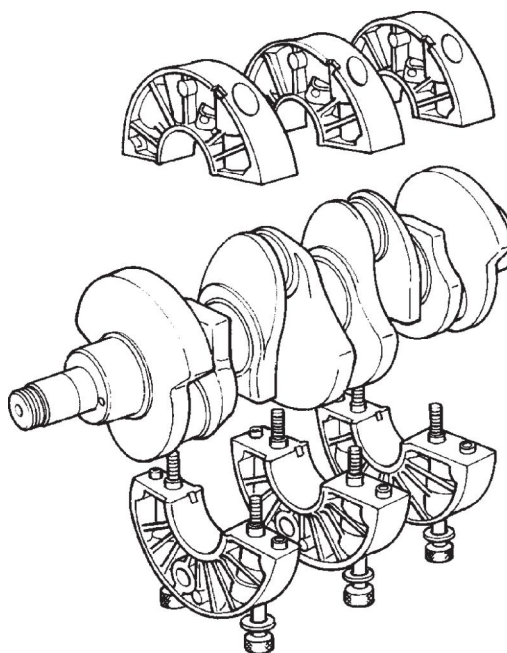

Fig. 55 Crankshaft and Carrier Bearing Assembly
- (23) Separate the two halves of each carrier, remove from the crankshaft and temporarily re-assemble the carriers (Fig. 55). Withdraw the crankshaft through the rear of the crankcase.
(1) Thoroughly clean crankcase and oil passages, and blow dry with compressed air.
(2) Install new main bearing shells in each of the carrier halves. Assemble the carriers to the crankshaft journals, ensuring that the carriers are installed in their original locations. Secure each carrier with the two bolts tightening evenly to 42 N·m (31 ft. lbs.) (Fig. 55).
(3) Slide special tool (VM-1002) over the crankshaft gear and, insert the crankshaft and carrier assembly into the crankcase in the same manner used for removal.